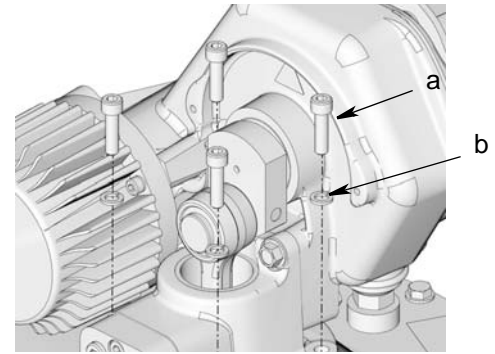

FIG. 8
- Align holes in pump base with holes in tank / reservoir cover (FIG. 8). Securely fasten pump to tank / reservoir cover using screws (a) and washers (b) removed in Step 1, page 8.